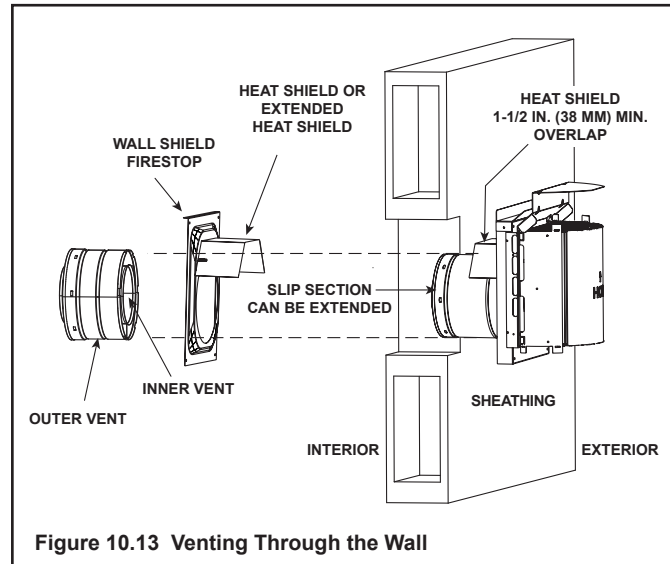

Figure 10.13 Venting Through the Wall
- **DO NOT** remove the heat shields attached to the wall shield firestop and the horizontal termination cap (shown in Figure 10.13).
There are two sections of the heat shield. One section is factory-attached to the wall shield firestop. The other section is factory-attached to the cap. See Figure 10.13.